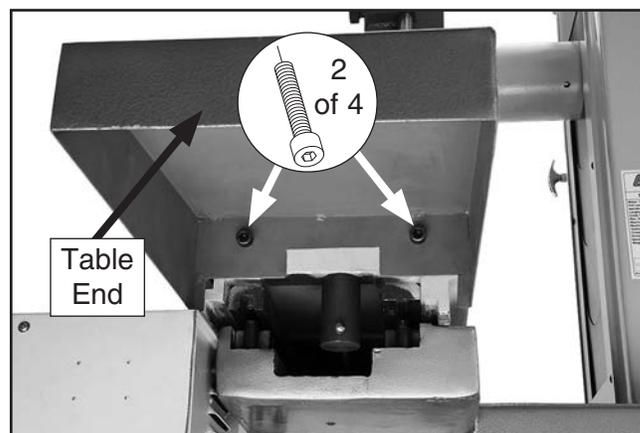

Figure 22. Table end attached.
- Attach table ends to table with (4) M8-1.25 x 12 cap screws (see **Figure 22**).